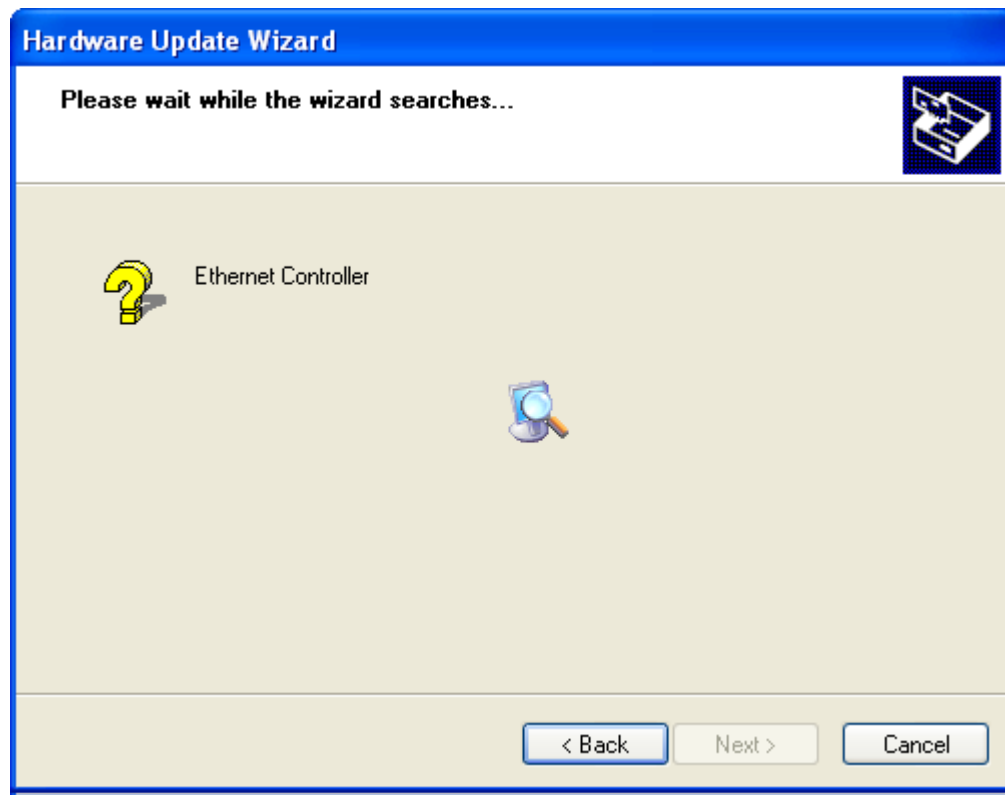

Figure 7-29: Wizard Search
Step 10: The Wizard then searches for the driver. See **Figure 7-29**.